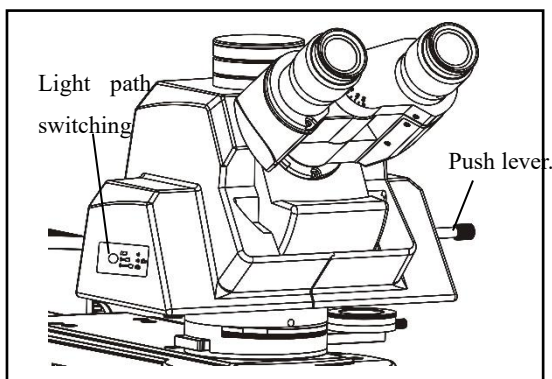

Figure 6
**3-6 3rd-gear optical circuit switch (Figure 6)**
Select the desired light path and light-strength ratio as shown in Figure 6.
### 3-7 Focusing (Figure 6 -8)
Push the light-way switching push lever 6 (shown in Figure 6) completely for binocular observation. With 10× objective focus, in order to prevent specimens and objective spades, the mechanical carrier table should first rise, so that the specimen and objective close, and then slowly reverse the rotation of the rough hand wheel, so that the specimen dropped, while searching for images in the 10 × eyepiece, and finally with fine-tuning the focus wheel finely focus to the clarity. At this point, switch to another multiplier objective lens, can achieve focus without damaging the specimen
Push the light-way switching push lever (shown in Figure 6) to the end, double-eye observation, image clearly, and then pull it out, which can be observed through the camera system.